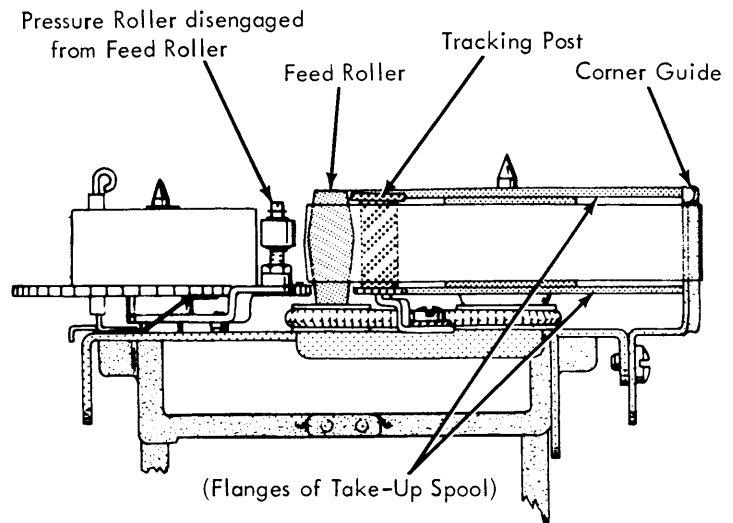

FIGURE 204. Track Post Verticalness
The following technique may be used to check verticalness: First, remove the typehead and then hold the load bail open just far enough to disengage the pressure roller from the feed roller (Do not open the load bail so far that the supply drag lever is held away from the spool of ribbon on the supply spool). Now, operate the repeat underscore and observe how the ribbon tracks from the corner guide to the feed roller. If the tracking post is vertical the ribbon will be centered as it passes between the two flanges of the transparent take-up spool (Fig. 204). It should also track on the center of the feed roller and evenly between the two flanges of the tracking post without touching either flange.
- c. Loosen the set screw in the flanged portion of the tracking post and adjust it up or down so it just spans the ribbon (Fig. 204). Check the adjustment by observing how the ribbon tracks between the flanges when operating the repeat underscore while holding the pressure roller disengaged from the feed roller.